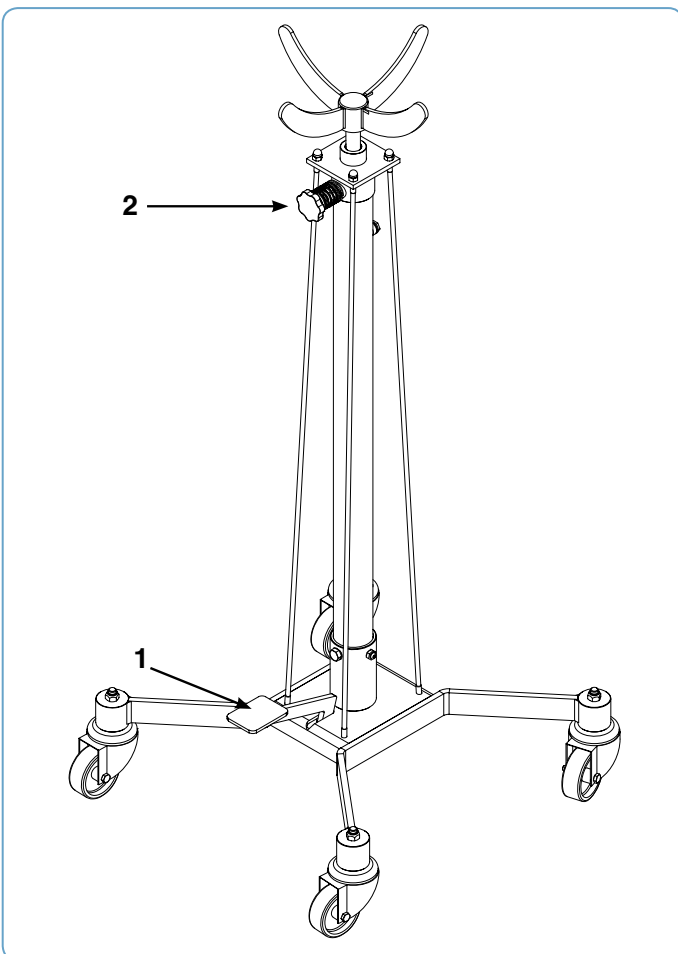

Fig. 6
Start the pedal (1 Fig. 6) with alternate movements.
Operate the lowering device (2 Fig. 6) by rotating it anti clockwise.
- After positioning the load on the cradle, lower the load using the lowering device (2 Fig. 6). When lowering is finished, release the control, making sure it returns to its original position.